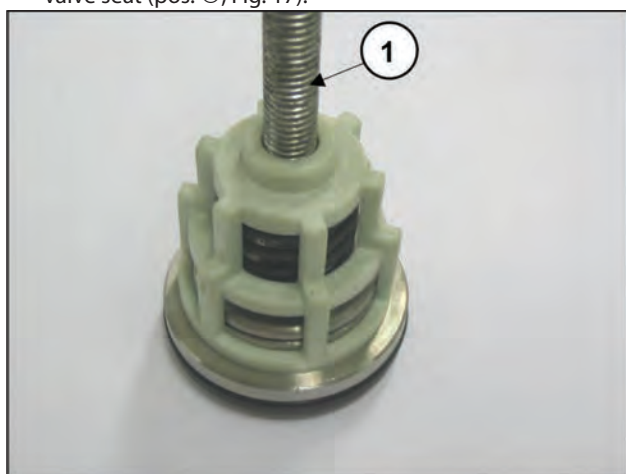

Fig. 17
- Disassemble the suction and outlet valve units, screwing a sufficiently long M10 screw in such a way as to be able to reach the valve plate and extract the valve guide from the valve seat (pos. ④, Fig. 17).